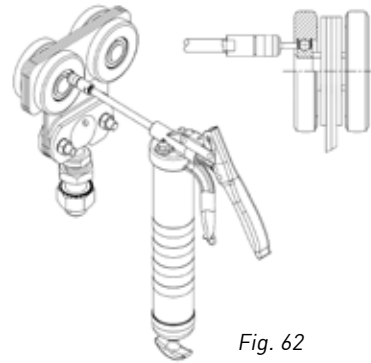

Fig. 62
- Annually, regrease the ball bearings of all trolleys and flight bars using a hand grease gun, through the hole located on the bearing's seal/ shield, as shown below in fig. 62.